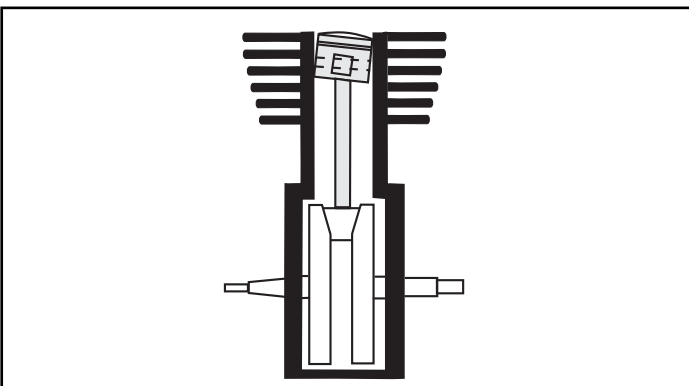

Figure 4
- D. Move piston towards driveside of engine and repeat Step C. If inaccuracies are present due to machining variations in cases, cylinders or pistons, top land of piston deck will appear closer to cylinder wall at one point around circumference. This means that piston is cocked in cylinder bore and can be corrected by bending rod in opposite direction. **Figure 4** shows an exaggerated side view of this condition.